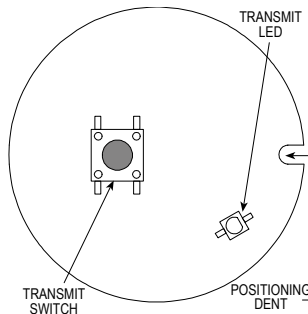

Figure 3. Transmitter Module - Top Side
Upon removing the cover, the top side of the transmitter module is viewed (Fig. 3). The battery clip and battery will be out of sight - they are both located on the bottom (hidden) side of the module.
- Turn the transmitter module over and briefly press the transmit switch (Fig. 3). The on-board LED should light brightly for 2 seconds.
- Align the positioning dent (Figure 3) with the guide pin in
- Align the cover with the base: make sure that the transparent lens is over the transmit LED and the transmit pushbutton is over the transmit switch (Fig. 3). Then press the cover and the base together between your fingers.